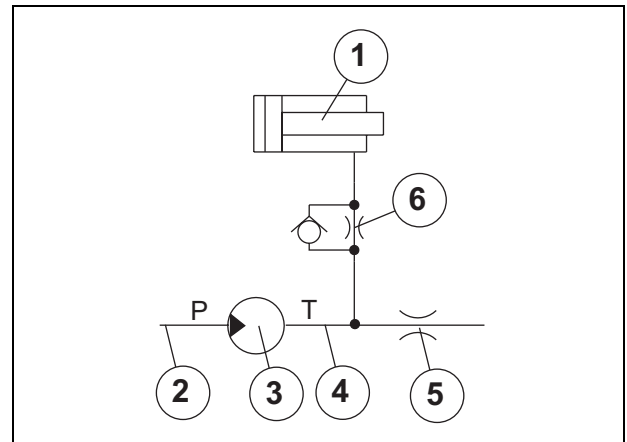

Fig. 12 Return line feed out system
In a return line feed out system the feed out pressure is created by a restrictor(5) in the saw motors return line(4). See Fig. 12.